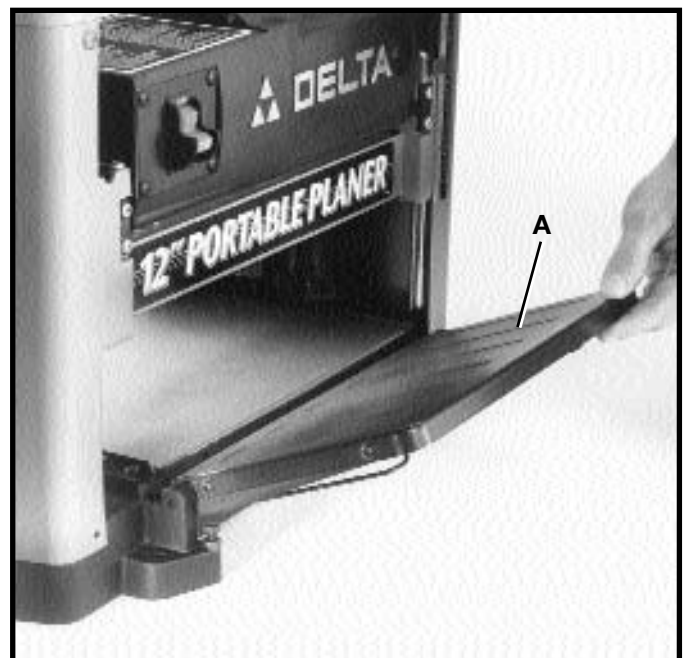

Fig. 6
The infeed and outfeed extension tables (A) Fig. 6, are shipped attached to the machine in the raised position. Lower the tables (A) on both sides of the planer as shown in Fig. 6. The top surface of extension tables should be level with the planer table. To check and adjust if necessary, refer to section “**LEVELING EXTENSION TABLES**” of this manual.